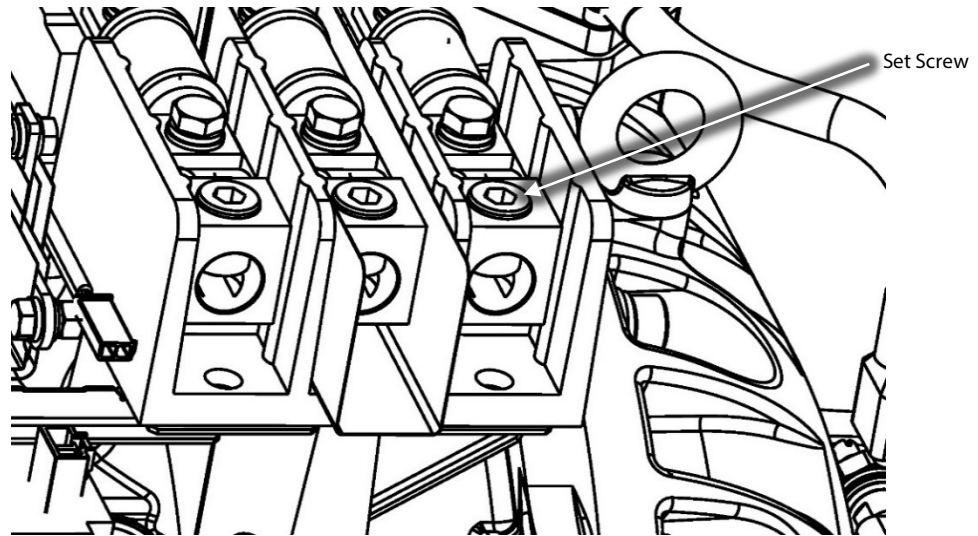

Figure 32 – 3-Phase Connection
32. Place the 3-Phase input wires in correct sequence on the fasteners to the fuse input to the SCRs and tighten the set screws. Refer to Figure 32 (3-Phase Connection).